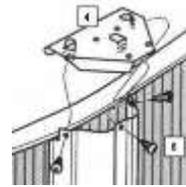

fig. 27
- c. Place an upper section (T2) (4) onto the top edge of the pool and on a vertical column (VER), with the tabs on the inside of the section, fig. 27.
- d. Align the openings for positioning screws TO2 (6), fig. 27, in the three holes in the vertical section, making sure they fit into the T2 (6) tab holes.